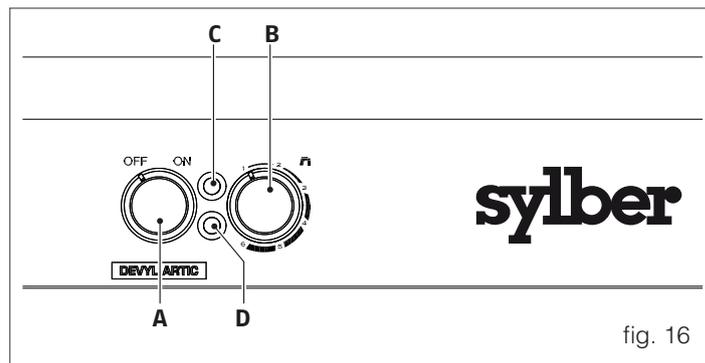

fig. 16
Turn the temperature control (fig. 16 - B) clockwise to increase the temperature of the domestic hot water and anti-clockwise to decrease the temperature of the domestic hot water.
- Turn the main dial (fig. 16 - A) on the control panel to the "OFF" position.
- Check that the green light switches off (fig. 16 - C).